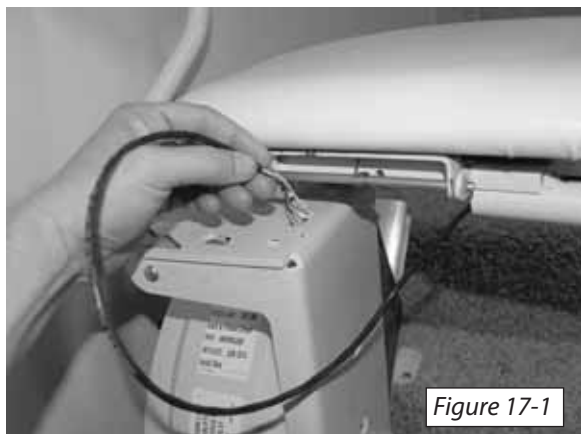
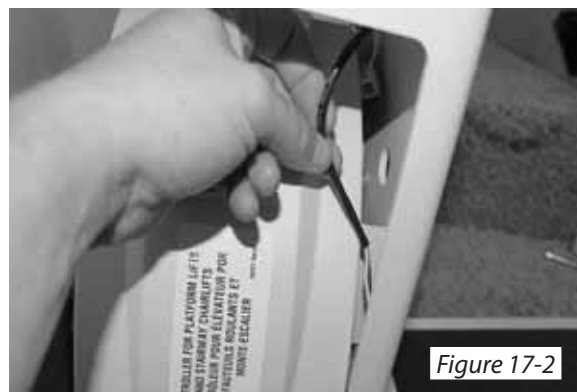

Figure 17-1
Figure 17-2
**3.** Route the 3 pin wire connector through the hole in the top of the seat chassis and down the left side. *[Figure 17-1 and Figure 17-2]*